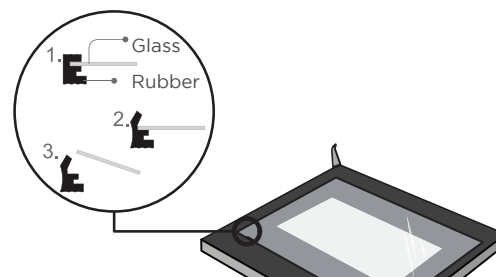

Figure 4
D. After removing the double glass, it is possible to access the third glass (if present) and disassemble it as shown in Figure 4.